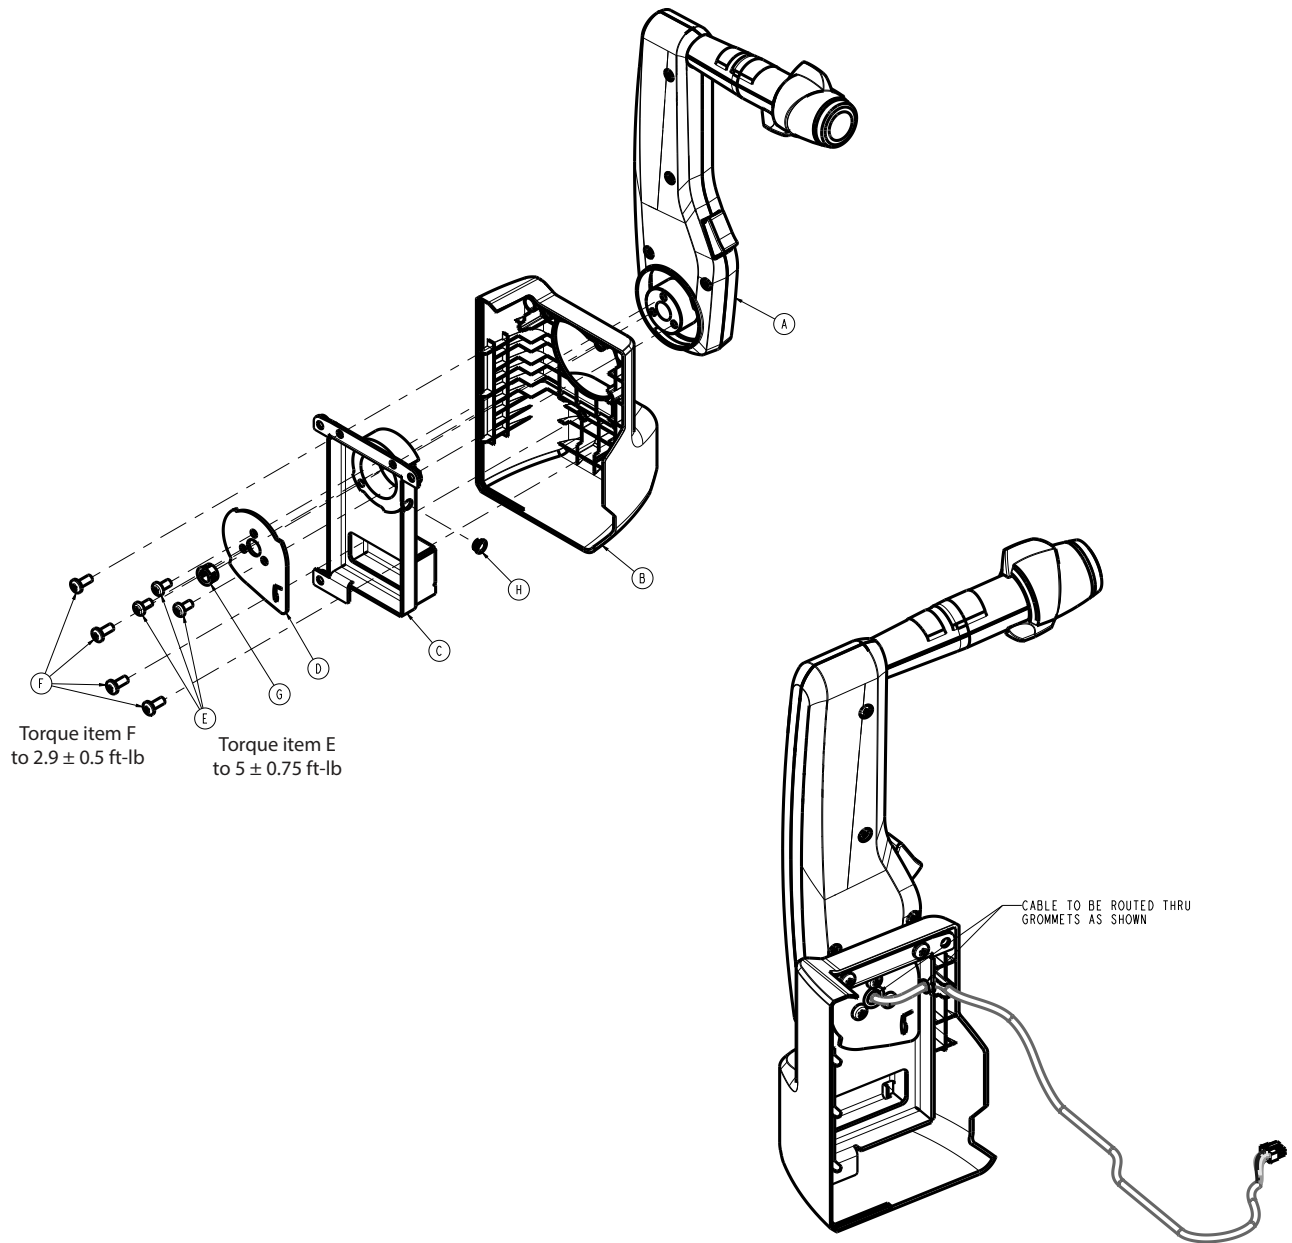

Figure 72 – Removing the Zoom drive handle
12. Using a T30 Torx driver, remove the three screws (E) that secure the Zoom drive handle (A) to the bumper (B) and remove the pivot plate (D) (Figure 72). Save the pivot plate.